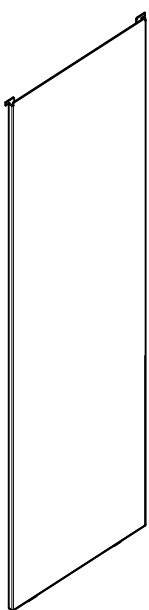
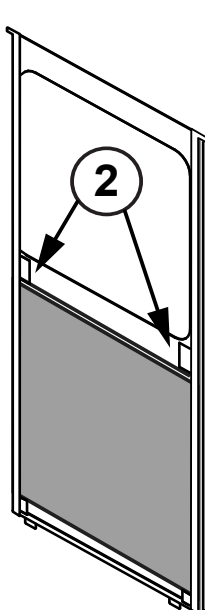
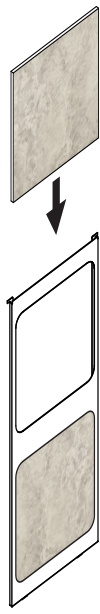

Figure 16.1
Figure 16.2
Figure 16.3
Your appliance ships with two different side options, one is a solid side panel (**Figure 16.1**) and tile side panel (**Figure 16.3**). There are two of each and no left or right side, these can be changed at anytime.
2. Stack non-combustible material tiles in tile frame as shown in **Figure 16.2** by sliding first tile in, bend tabs on back side, then slide last tile in position so that it rests on tabs **Figure 16.3**.